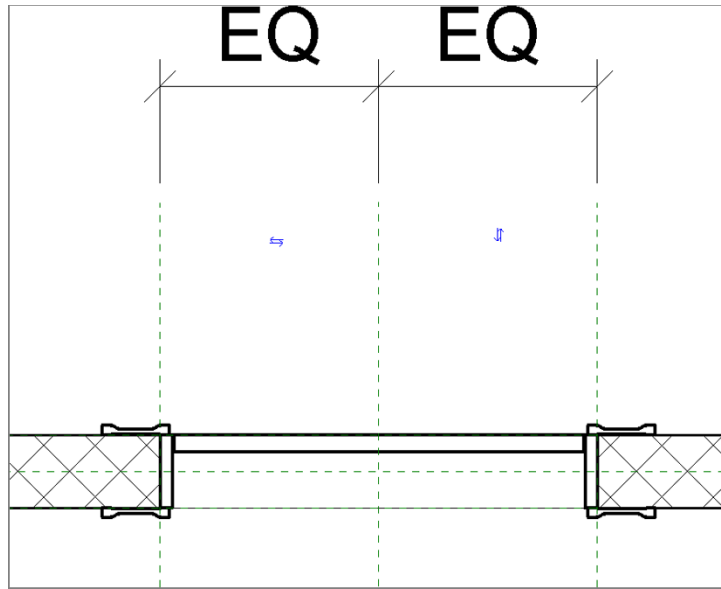

FIGURE 17.25: The finished door in plan
17. Your door should look like the one in Figure 17.25.